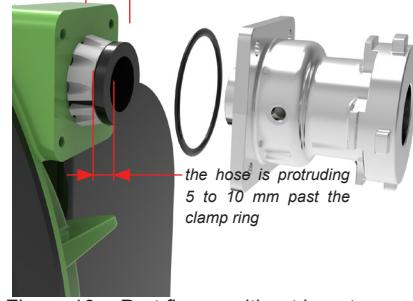

Figure 10. - Port flange without insert
8. Run the pump forward and stop when the hose is protruding 30 mm from the pump housing flange face. (Figure 10).